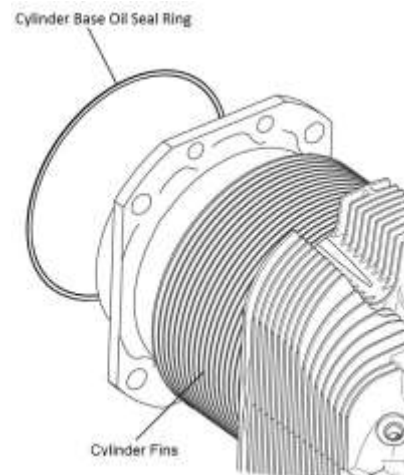

Figure 19
- T. Remove and discard the cylinder base oil ring from the cylinder (Figure 19).